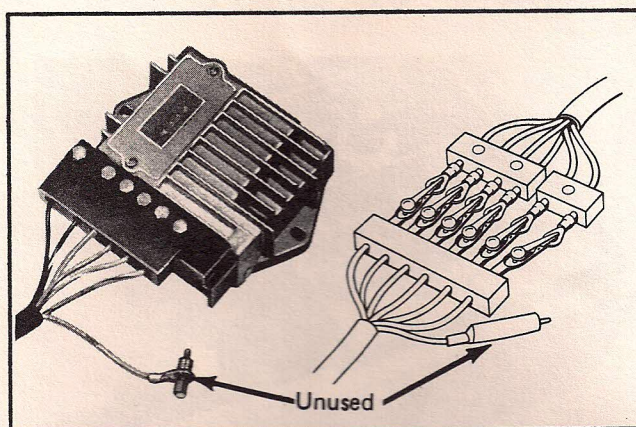

Fig. 3 6-Wire Hook-Up
- (2) 1975-76 California 280-Z with 6-wire harness: Attach all six *harness body* connectors. Disregard the yellow pigtail lead. (See Fig. 3)